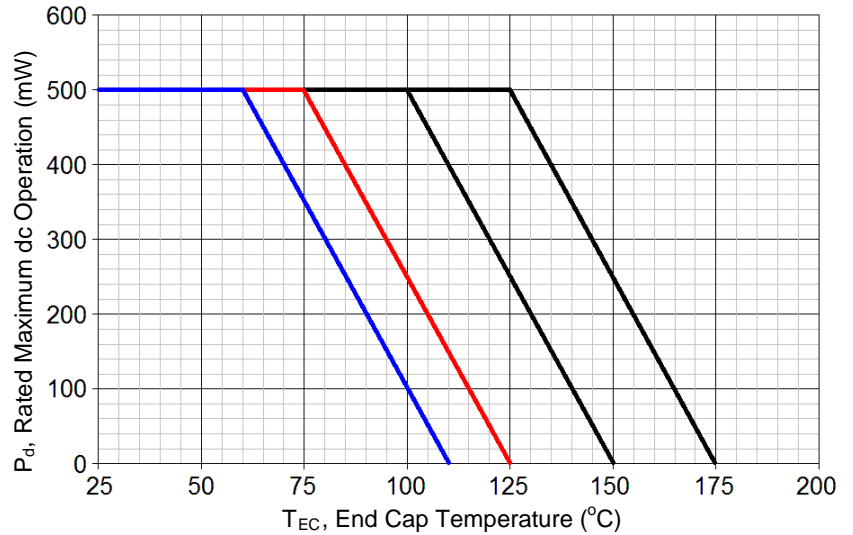

FIGURE 2 – Power Derating Curve
1. At end cap temperature T_{EC} ≤ 125 °C or at ambient T_A ≤ 50 °C when mounted on FR4 PC board as described for thermal resistance above (see Figure 2 for derating). Derate to 0 at +175 °C.